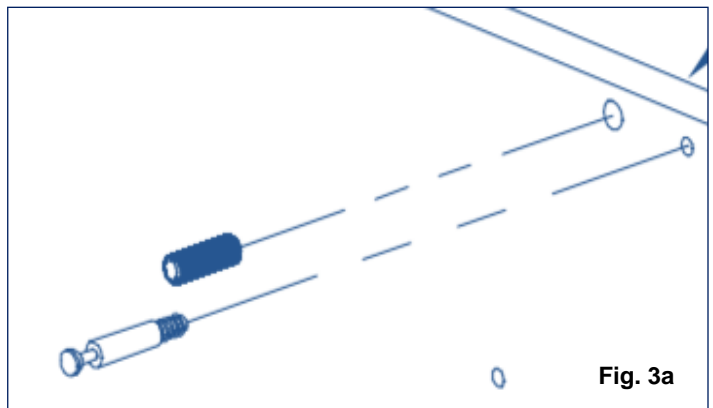

Fig. 3a
Insert 8 cams (Item 8) in the holes provided on the Modesty Panel (item 2) (See Fig. 3b). Insert 4 wood dowels (Item 10) and screw 4 Connecting Bolts (Item 9) each in the holes provided on both the End panels (item 3)(See Figure 3a).